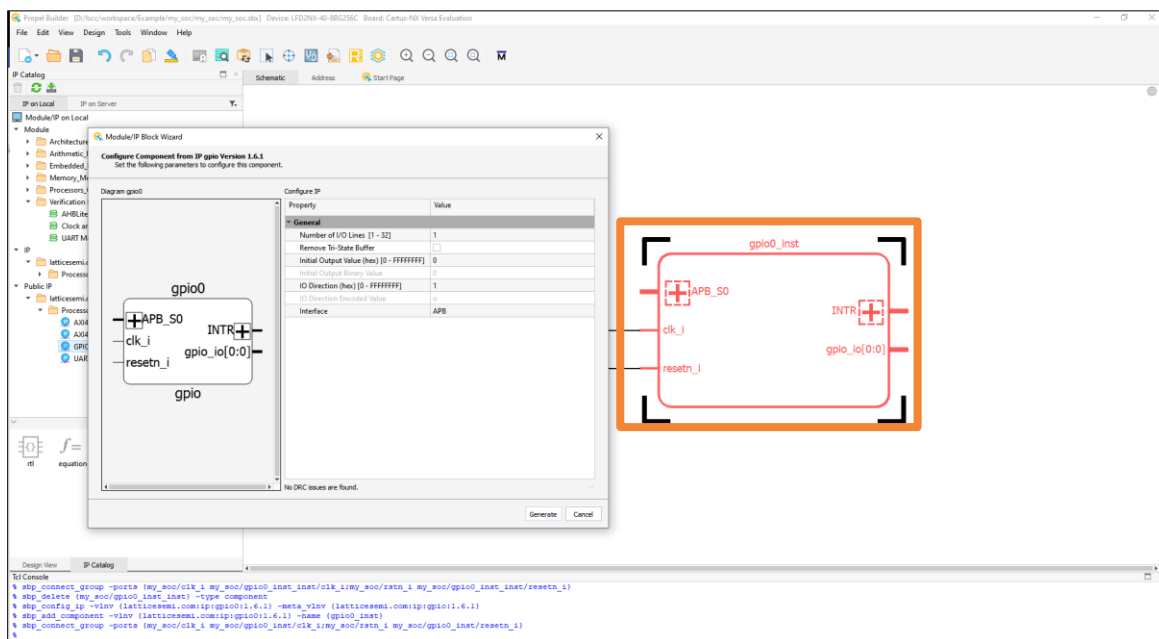

Figure 2.48. Regenerate Module/IP
10. (Optional) To re-generate this IP, double click on the instance. A Module/IP Block wizard pops up (Figure 2.48).